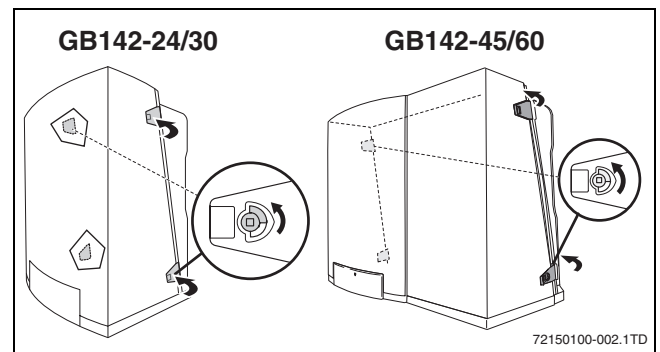

Fig. 2 Remove the casing
- ▶ Remove the casing (→ fig. 2).